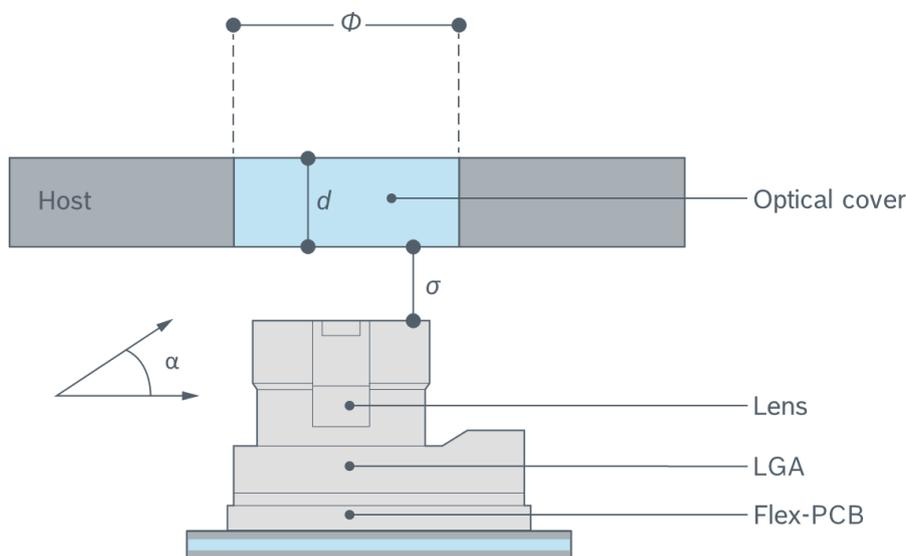

Figure 24: Optical interface
- Figure 24 and Table 10 show the mechanical requirements of the optical interface